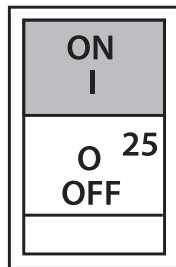

Figure 49. Main Circuit Breaker ON (GFCI Test)
2. Place the main circuit breaker, CB1 (Figure 49) in the **ON** position.